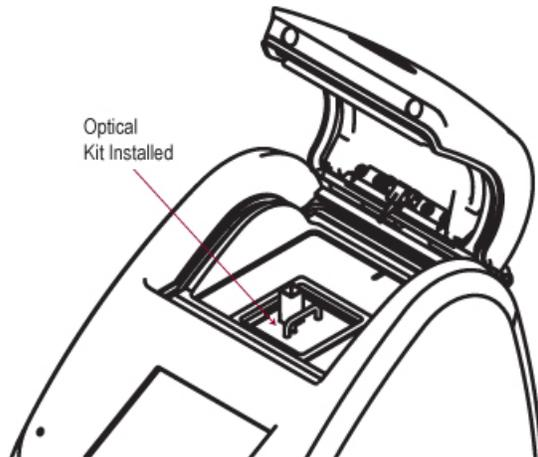

Figure 9.
3. Press down firmly to lock the Optical Application Module in place. You will hear or feel a click indicating the module has snapped into place. (See Figure 9.)